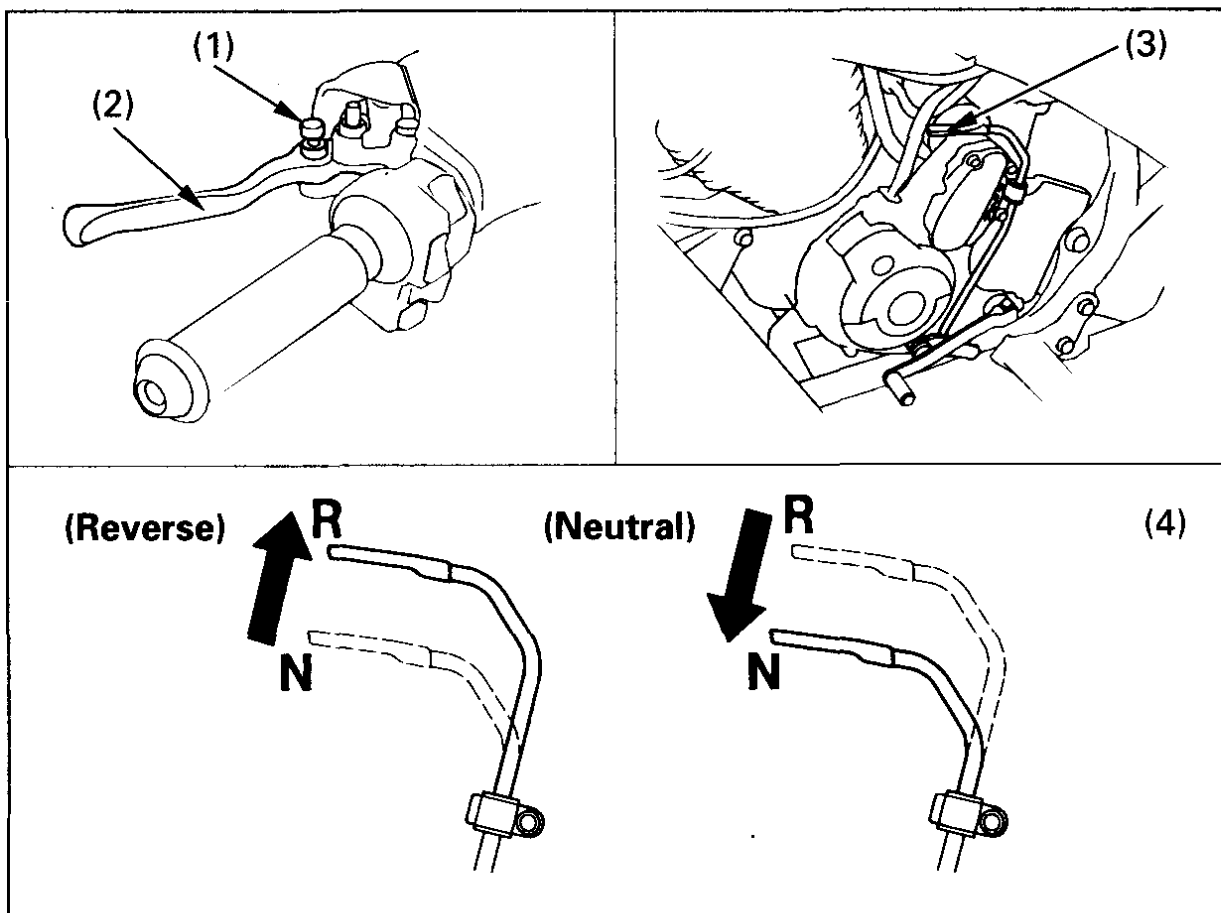

Fig. 2-13 (1) Reverse selector knob (2) Clutch lever (3) Reverse lever (4) Reverse sequence
The reverse selector knob (Fig. 2-13) (1) is near the clutch lever (2). The reverse lever (Fig. 2-13) (3) is above the left footpeg.